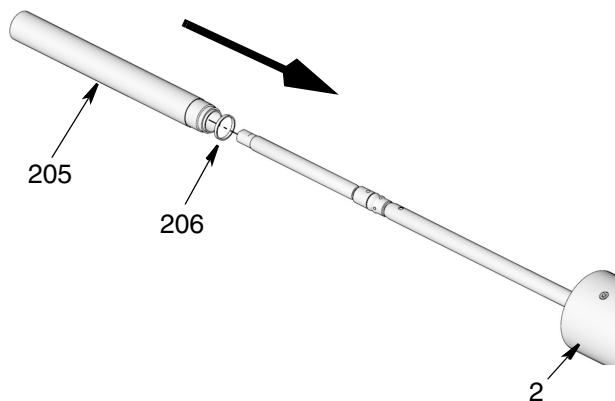

FIG. 39
10. Apply a thin layer of grease around gasket (206). Install gasket over end of spacer cylinder (205). Slide cylinder over rod assembly as shown in FIG. 39. Thread end of cylinder into bottom of pump adapter (2). Use a pipe wrench to turn cylinder until tightened securely. Torque to 45 - 55 ft lbs (61-74.57 N.m).